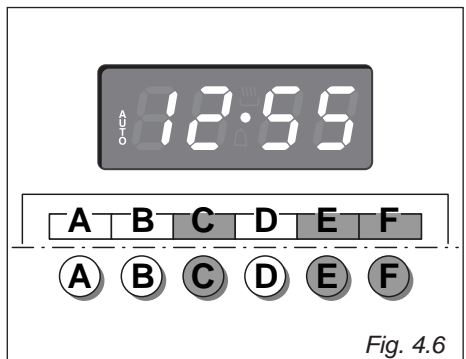

Fig. 4.6
2. Set the end of the cooking time by pressing the "C" button (the cooking time already added to the clock time will appear) and the "F" button (fig. 4.6); if you pass the desired time you may get back by pushing the "E" button.